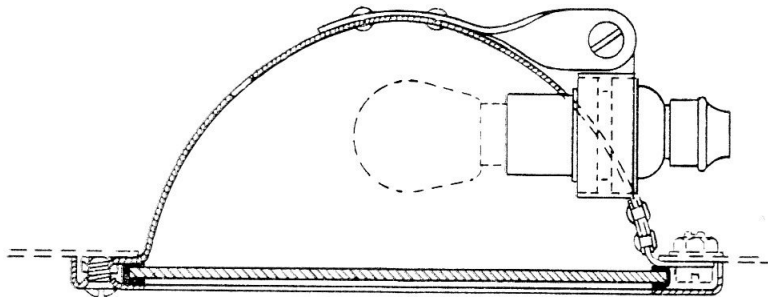

Fig. 1 Sectional view of roof lamp
1. The cabin roof lamp, G.E.C., FM1949 shown in fig. 1, is designed for flush mounting in the cabin roof to provide general illumina-